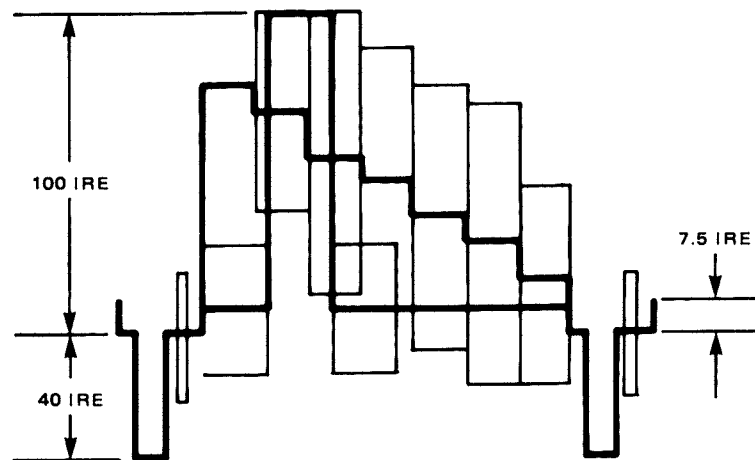

Figure 5-16. NTSC Color Bars
- STEP 2 Observe NTSC output on waveform monitor and adjust R7 (SET UP) so that the setup is 7.5 IRE (Figure 5-16).
- STEP 3 Adjust R75 (VBS GAIN) so that white bar in I/WHITE/Q signal portion is 100 IRE (Figure 5-16).
STEP 4 Adjust R40 (SYNC LEVEL) so that the sync level is -40 IRE, repeat steps 1 through 3, if necessary (Figure 5-16).